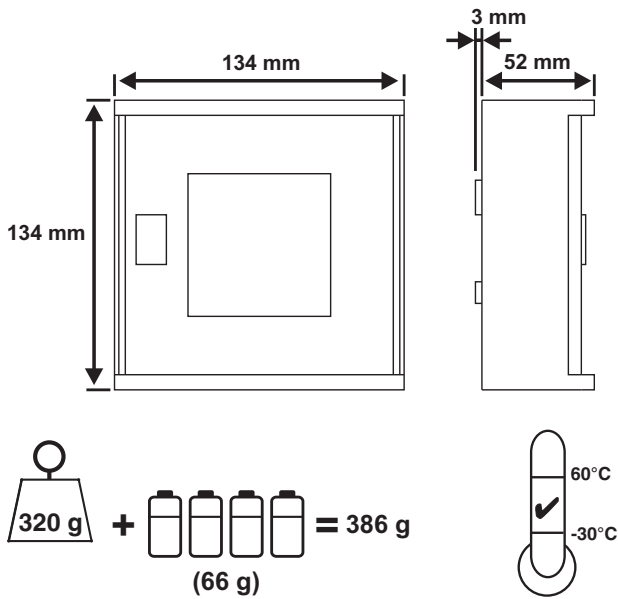

Figure 1: Backplate and Mounting Holes
- 1) Figure 1 details the installation of the backplate. Screw the backplate into position on the wall using the fixing holes provided.